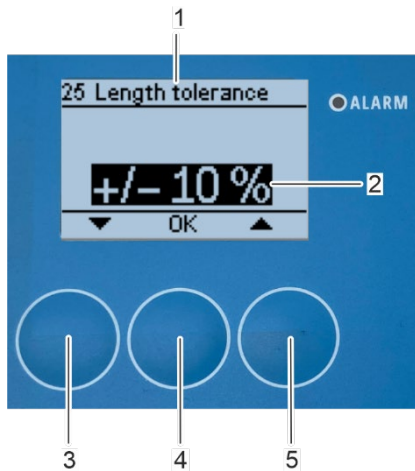

Fig. 134: Set length tolerance
⇒ The "25 Length tolerance" submenu appears on the display (Fig. 134/1).
3. Set the length tolerance (Fig. 134//2) with the arrow keys [up] (Fig. 134/5) and [down] (Fig. 134/3).
4. Confirm the setting with [OK] (Fig. 134//4).